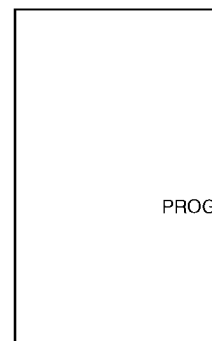

Figure-4.30 Enter Program Mode Frame.
2. Press <Enter> when the following frame appears (Figure-4.30).